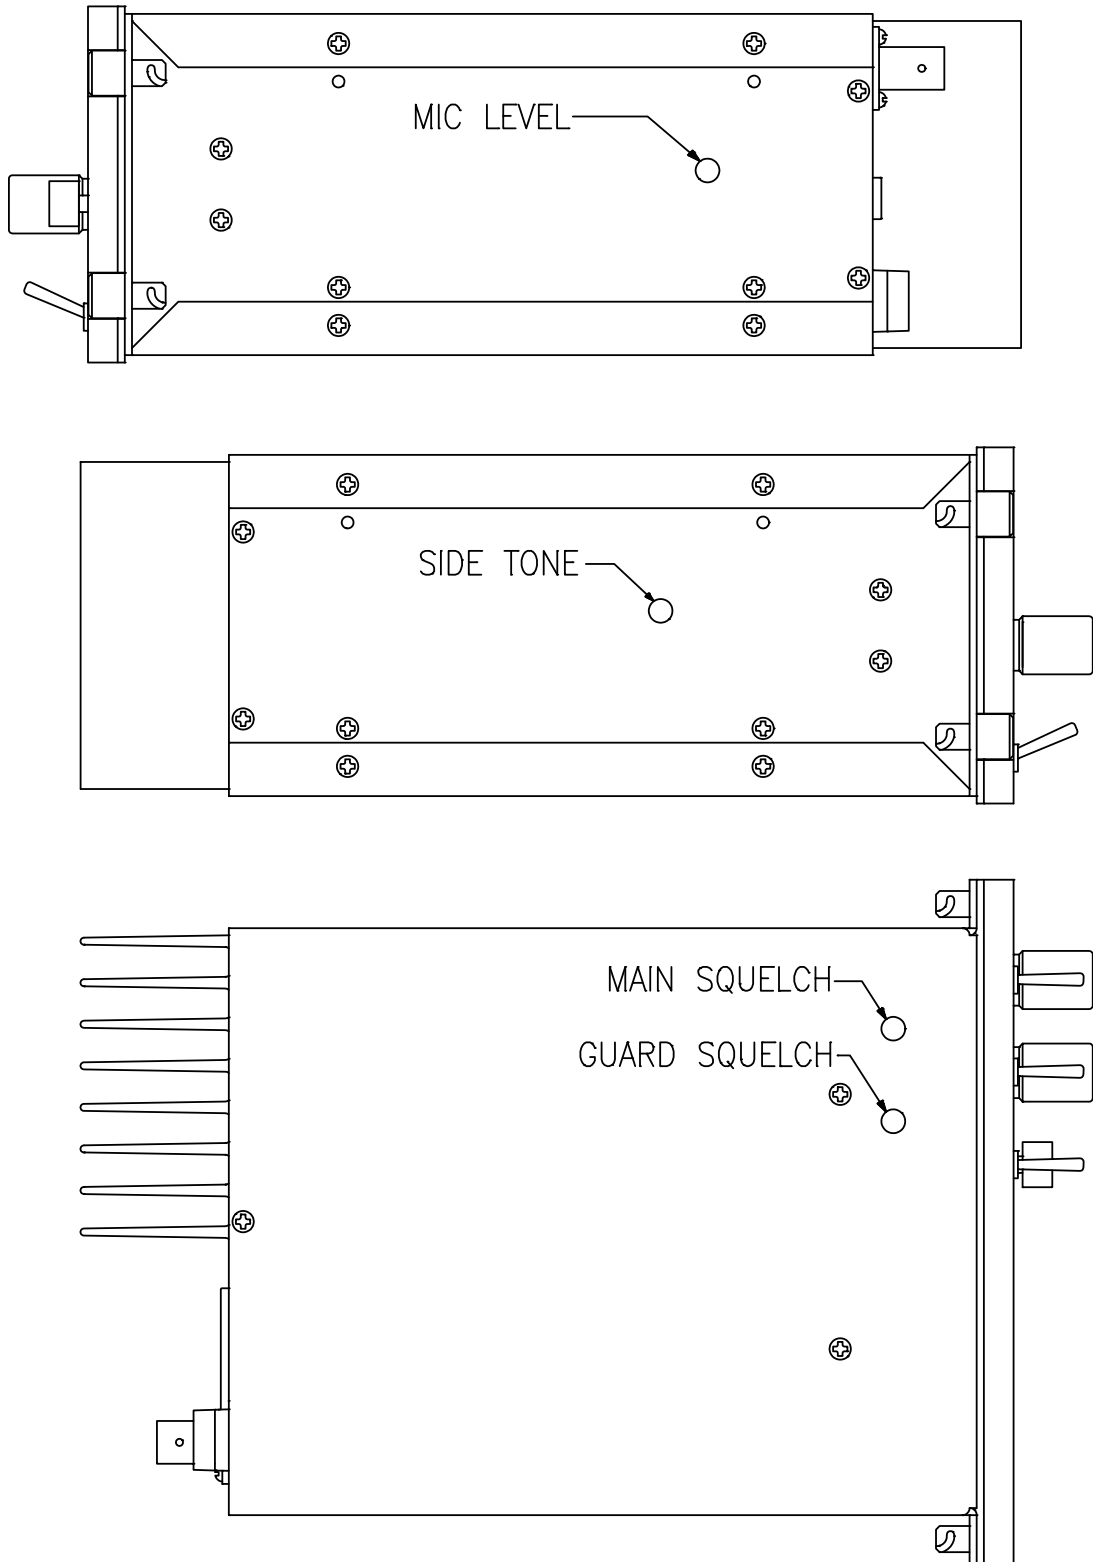

FIGURE 3.4 Microphone and Sidetone Level, Main and Guard Squelch Adjustment Access Holes
3. Adjust the microphone level potentiometer (R8 on MCU module) through the access hole located on the right side of the chassis (see Figure 3-4) to produce a 3.5 KHz deviation.
3. Adjust the sidetone level potentiometer (R37 on MCU module) through the access hole located on the left side of the chassis (see Figure 3-4) to produce a +3.0 dBm (1.0 VRMS) 600 ohm audio output.
3. If not, re-adjust main receiver squelch potentiometer, R3 through the access hole located on the bottom of the transceiver chassis (see Figure 3-4).
4. Repeat the above procedure to adjust the guard receiver squelch setting using guard receiver squelch adjustment potentiometer, R4 (see Figure 3-4).